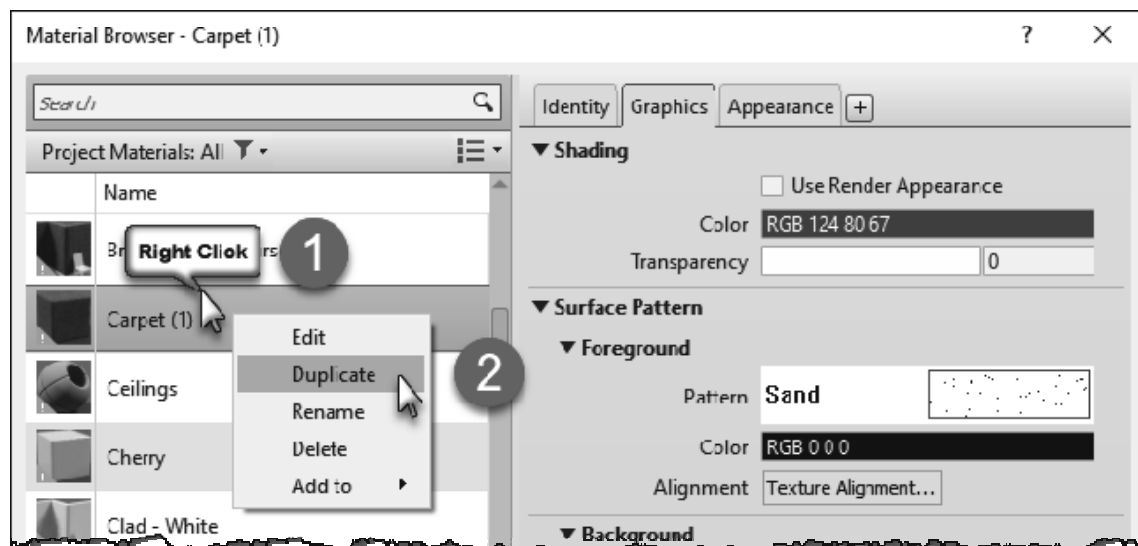

FIGURE 4-3.2 Duplicating a material
4. In the *Project Materials* list, select **Carpet (1)**.
5. Right-click *Carpet (1)* and then click the **Duplicate** in the pop-up menu (Figure 4-3.2).
You now have an image file which represents the specified carpet style available on your computer or network. You will assign this image to the *Appearance* asset. But first you will duplicate the *Appearance* asset because the one named “Red” (Figure 4-3.2) is not applicable.